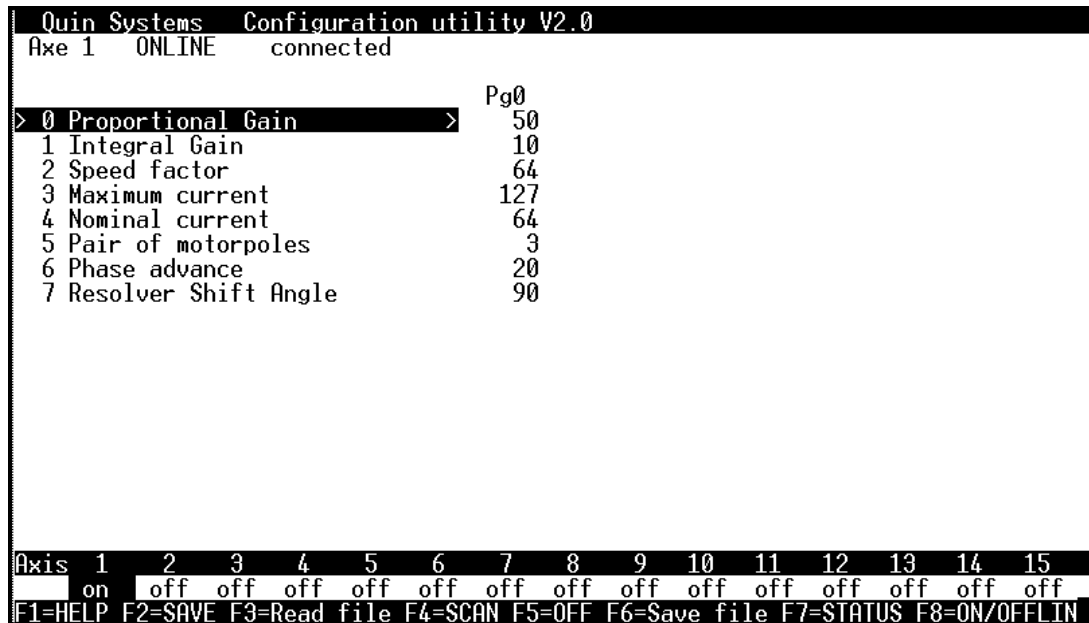

Figure 13. Q-Drive.exe: scanning for active drives
- 2 If drive 1 is not connected then press function key **<F4>** to scan for active drives, Figure 13. on page 35 shows the program scanning for drives and finding drive 1. When the active drive has been identified use the procedure in steps 3 to 5 to connect to it.
The up/down arrow keys are used to select the desired parameter on each page. The selected parameter appears in reverse video, Figure 13. shows Proportional Gain as the selected parameter.